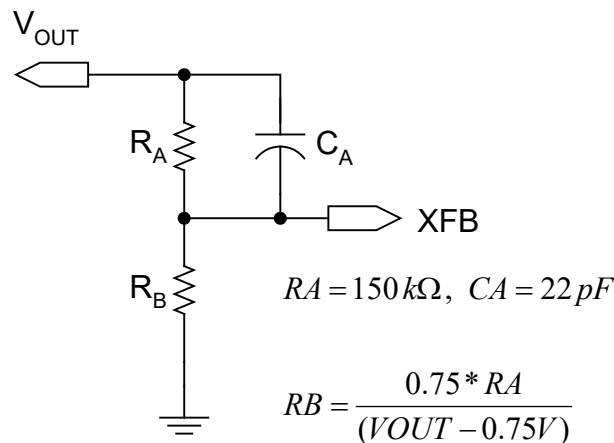

Figure 5.  $V_{OUT}$  Resistor Divider Network and Compensation Capacitor  $C_A$
The EN5337QI uses a type 3 compensation network. A piece of the compensation circuit is the phase lead capacitor  $C_A$  in Figure 5 This network will provide wide loop bandwidth and excellent transient performance for most applications. It is optimized for use with about 50μF of output filter capacitance at the voltage sensing point. Additional load decoupling capacitance may be placed beyond the voltage sensing point outside the control loop. Voltage mode operation provides high noise immunity at light load, and low output impedance.
The EN5337QI output voltage is determined by the voltage presented at the XFB pin. This voltage is set by way of a resistor divider between  $V_{OUT}$  and AGND with the midpoint going to XFB. A phase lead capacitor  $C_A$  is also required for stabilizing the loop. Figure 5 shows the required components and the equations to calculate the values.
**Recommendation 4:** The large thermal pad underneath the component must be connected to the system ground plane through as many vias as possible. The drill diameter of the vias should be 0.33mm, and the vias must have at least 1 oz. copper plating on the inside wall, making the finished hole size around 0.20-0.26mm. Do not use thermal reliefs or spokes to connect the vias to the ground plane. This connection provides the path for heat dissipation from the converter. Please see Figures: 5, 6, and 7.